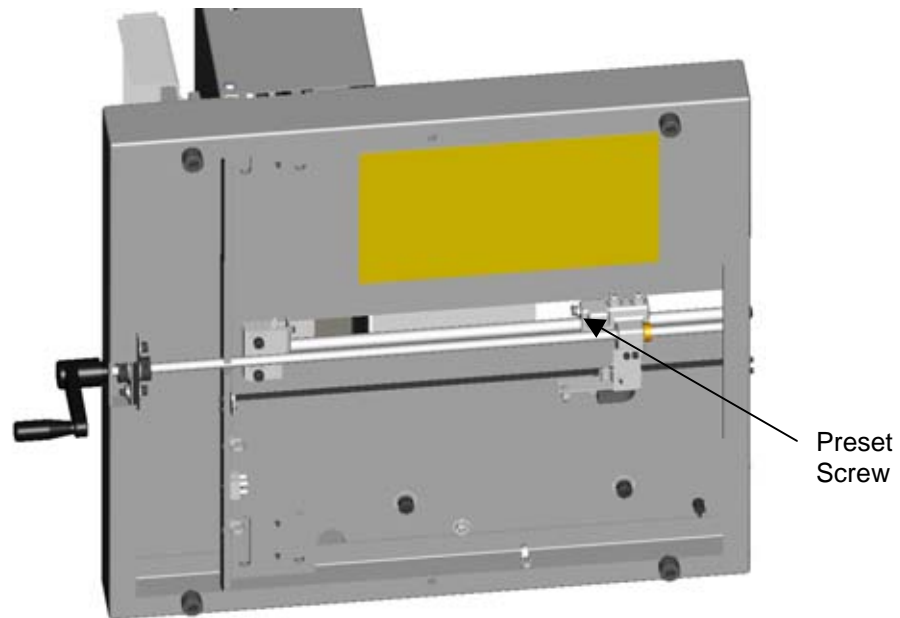

Figure 9
4. The backgauge accuracy can be corrected by adjusting the preset screw attached to the bottom of the backgauge nut assembly (Figure 9). Disconnect the power cord. With the top cover ON, place the machine on a flat level surface on it's left side. Place a 5/16" wrench in the preset screw and hold in position while loosening the jam nut. Adjust the screw as follows: